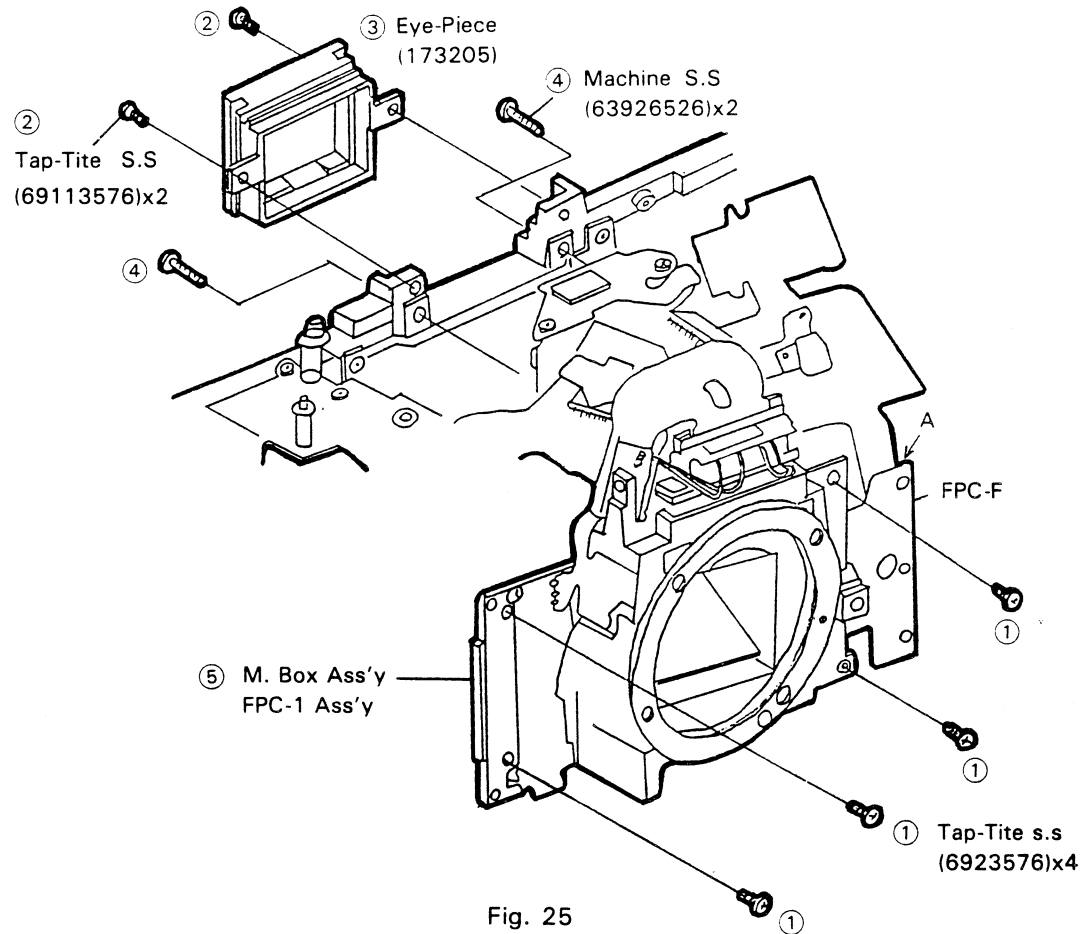

Fig. 25
(4) Remove the parts shown in Fig. 25 in the numerical order.